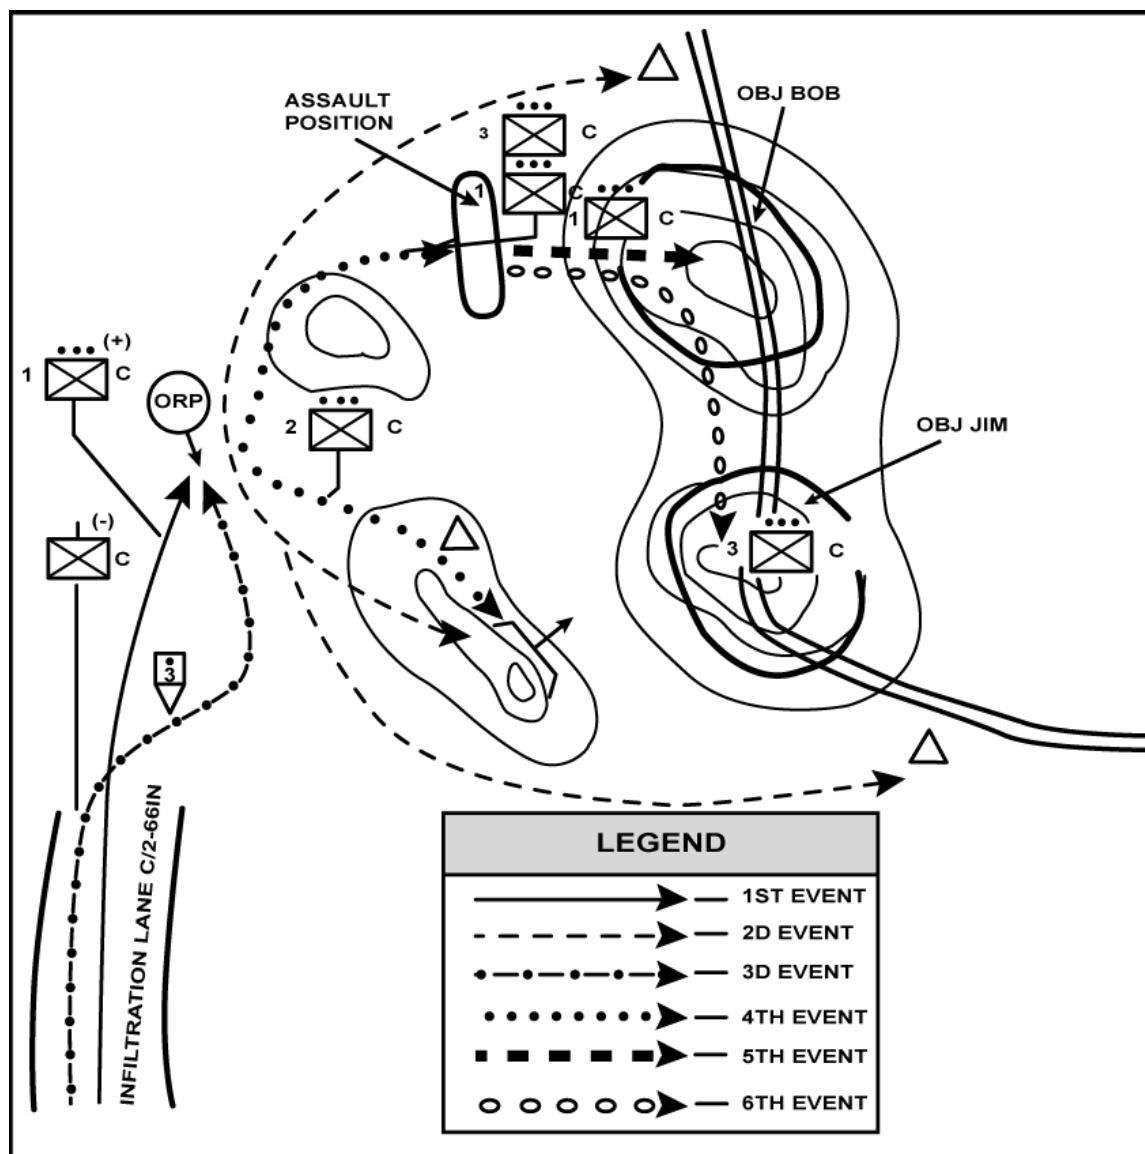

Figure G-2. Company concept sketch.
b. **Concept Sketch.** The company area of operations or objective area is often so small that on a 1:50,000 map, overlays are not sufficiently clear. The commander then makes a concept sketch or terrain model that accomplishes the same purpose (Figure G-2). He begins by sketching the terrain of the area of operations or objective area. He does this by free-handing the dominant terrain features from the military map onto the sketch paper. Additional details of terrain and vegetation are added based on reconnaissance and a more detailed examination of the map. The enemy situation, scheme of maneuver, fires, mobility/ countermobility, or other pertinent data as desired are then superimposed. If possible, the synchronization of units in time and space is represented by using modified graphic symbols (explained by a legend) that show the order of occurrence.